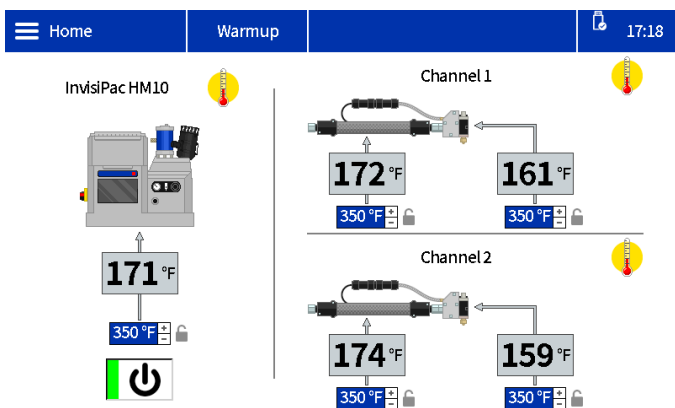

FIG. 19: System Warming Home Screen
- Press the power button  on the ADM Home Screen to begin system warm-up. See FIG. 19.